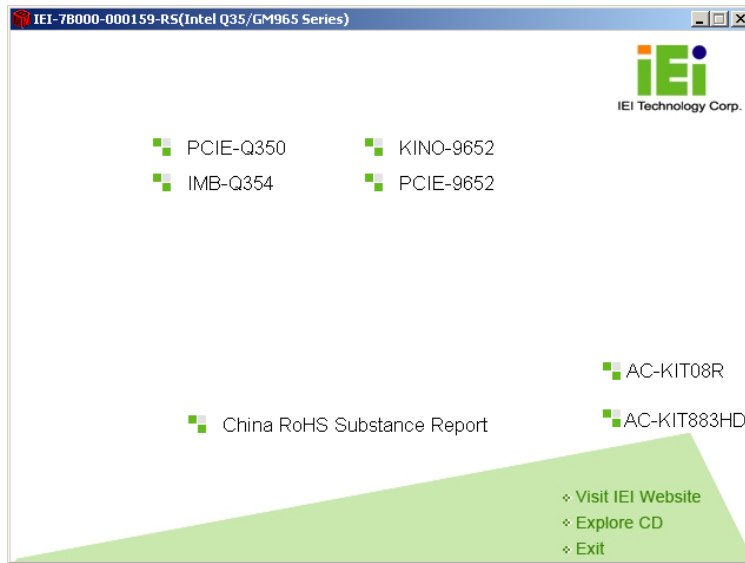

Figure 6-1: Introduction Screen
Step 2: The driver main menu appears (**Figure 6-1**).
Step 1: Select IMB-Q354 from the list in Figure 6-1.